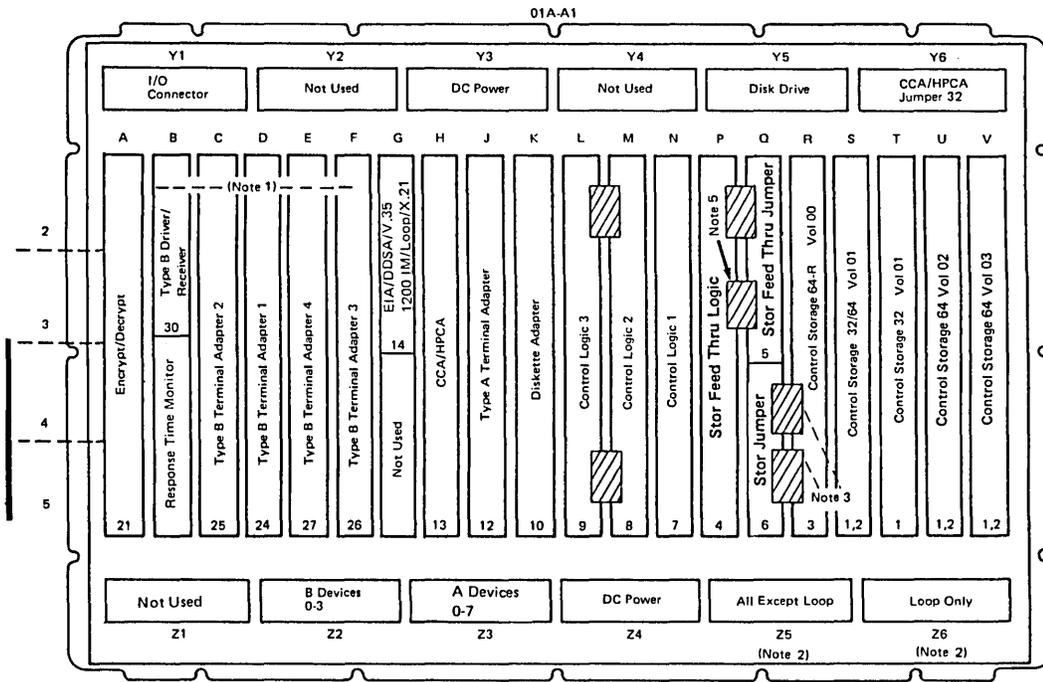

Figure 1-3. 01A-A1 Board – Model 51C (with/without Category B Devices – PN 5699828
The type and layout of the 01A-A1 logic board is determined by the machine model number. These boards are shown in Figures 1-3 through 1-6 as follows:
- Figure 1-3 Model 51C with/without the Category B Device Attachment Feature. Machines with the Category B Device Attachment have the B coaxial panel and have cards in positions B, C, D, E, and F.